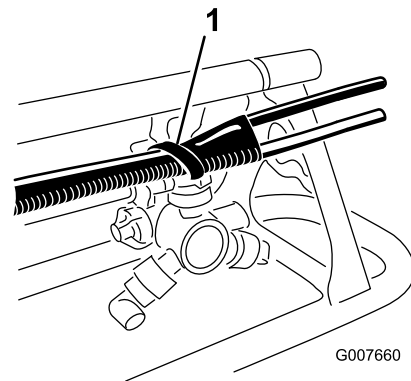

Figure 9
- B. Align the end of the hose with the end of the upper support pole. Use a plastic tie to secure the foam hose to the brace using the holes in the brace (Figure 9).